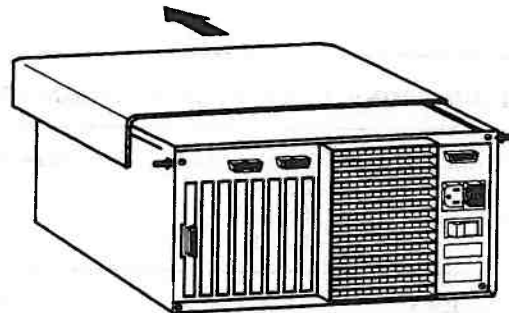

Figure 3-3. Removal of the Lower System Module Cover
2. Loosen the two screws that secure the lower cover (Figure 3-3).